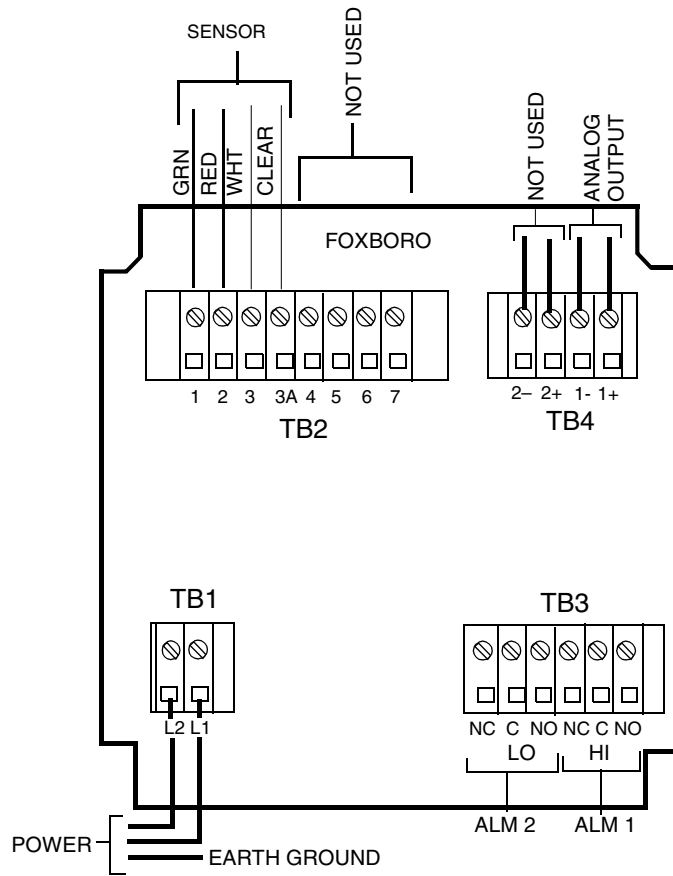

Figure 11. Rear Panel Wiring - Metal Enclosure
2. Connect ALM 1 and ALM 2 alarm wires to TB3 as shown in Figure 11. Failsafe operation requires connections to be made between contacts NC and C. Also see “Wiring of Alarms” on page 21
4. Connect sensor wires to analyzer terminal block TB2 as shown in Figure 11.
5. Connect power wires to terminal block TB1 as indicated in Figure 11. The earth (ground) connection from the power cord should be connected to the stud located in the bottom of the case.